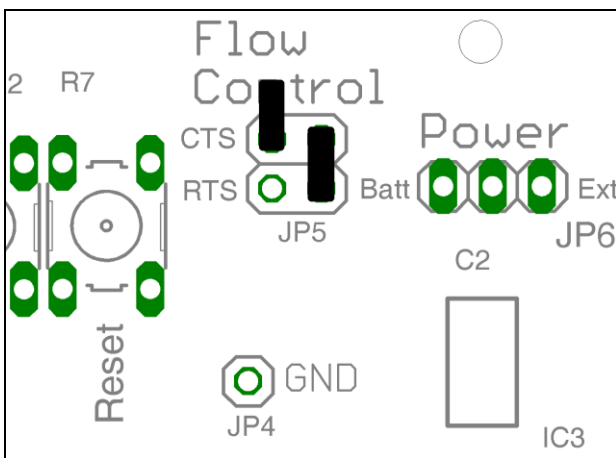

Figure 5. No Flow Control (default)
**Flow Control Selection:** JP5 is used to connect the RTS and CTS lines used for the flow control to the host. By default flow control is disabled and the corresponding lines of the module are used as standard I/Os (see the AT command dictionary on how to enable flow control), so the default setting of JP5 does not connect those lines to the host as shown in Figure 5. When flow control is enabled JP5 must be set as shown in Figure 6. Please make sure the jumpers are only set to this configuration when flow control is enabled as otherwise I/Os driving against each other (via a protective resistor) will increase the current consumption.